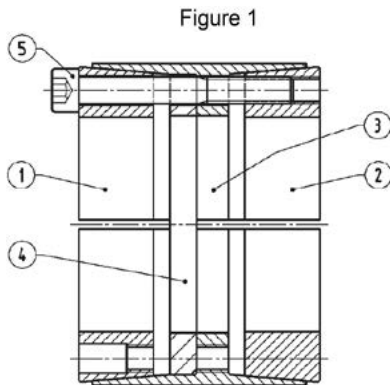

Figure 1
2. Loosen all locking screws by a minimum of four (4) turns and transfer at least three (3) screws to equally spaced push-off threads in clamp collar Item 1 to disengage this part from center collar Item 3. To disengage collar Item 2 from taper interface, lightly tap heads of three (3) equally spaced locking screws that have been engaged at least four (4) turns into collar Item 2 (see Figure 1).
3. Completed assembly can now be placed on shaft and inserted into hub bore by pushing against face of collar Item 1 and heads of locking screws threaded into collar item 2. This ensures collar Item 2 is not engaged at tapers during this phase.